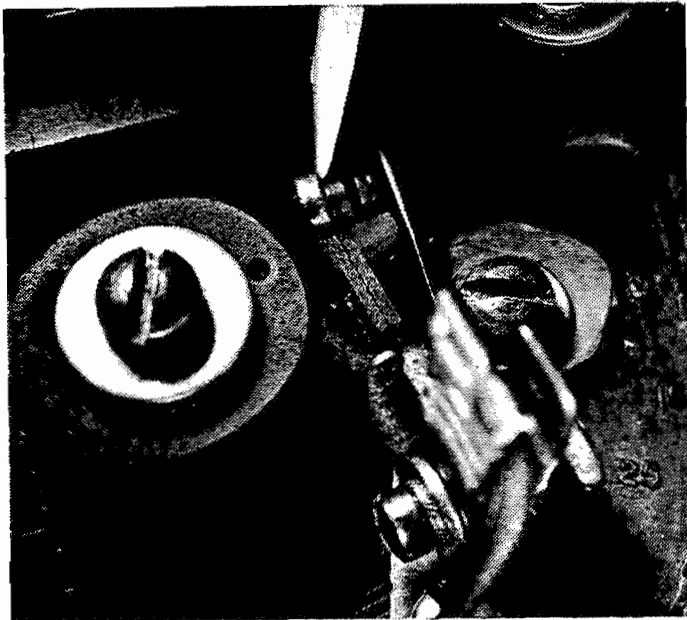

Figure 601. Checking Secureness of Contact Points
- A. Remove cover (6) from housing (72) as specified in DISASSEMBLY, paragraph 4.2.1 step A.
- B. Turn magneto drive shaft until cam follower rests on high lobe of cam holding points in their open position. Using a fiber or plastic rod with a screwdriver shaped end, prod contact points as indicated in Figure 601. If any looseness is noted, replace breaker assembly.